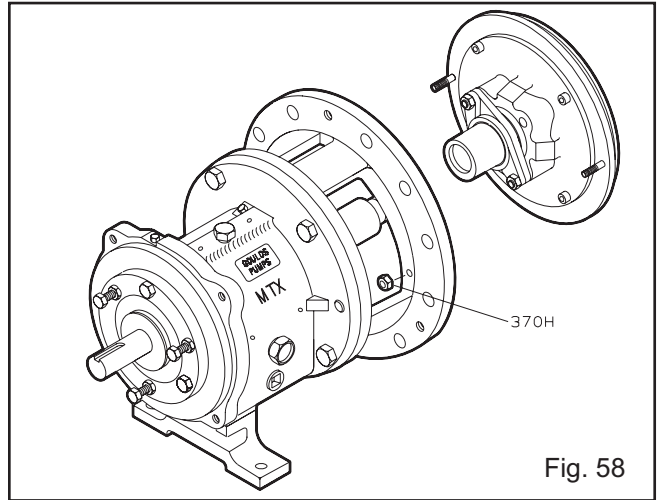

Fig. 58
2. Remove dynamic seal assembly (Fig. 58).